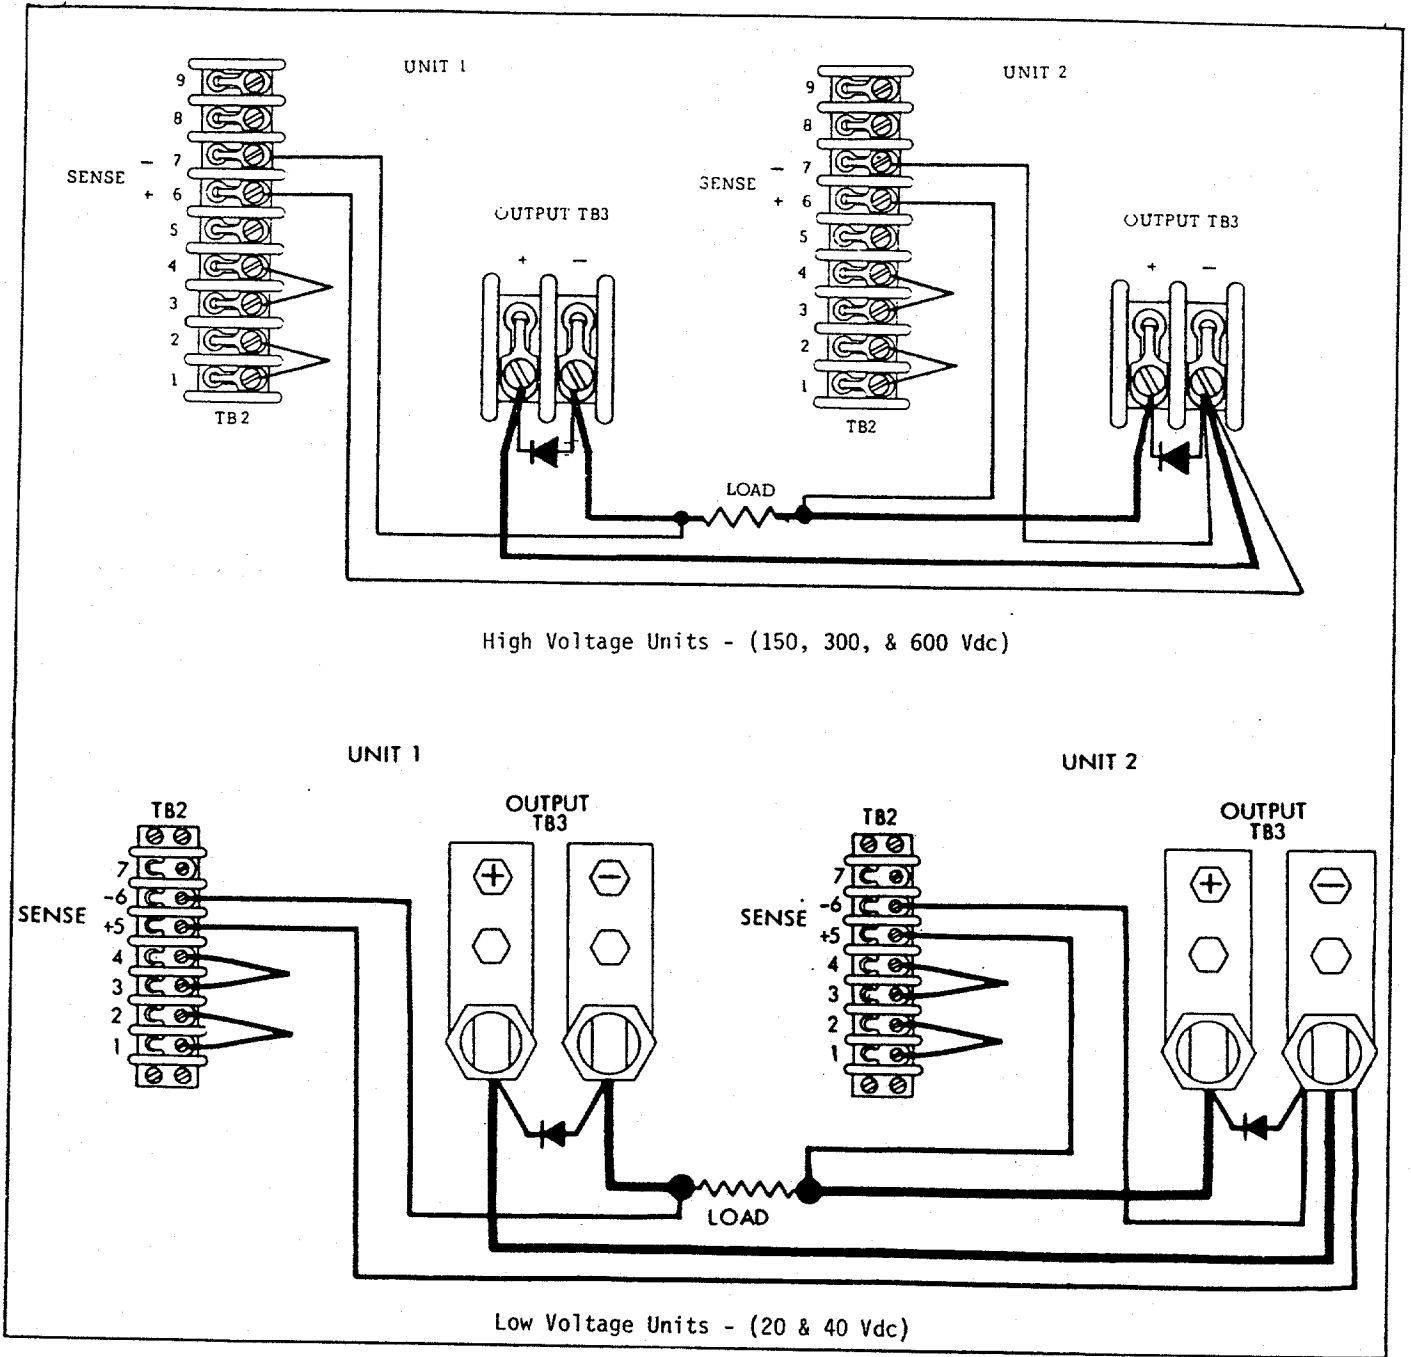

Figure 3-9 Series Operation (With Remote Sensing)
The following outlines procedures for connecting two units in series. The same procedure may be used for series connecting up to five units. (See Figure 3-9 for a schematic of connections.)
Series units may be connected for remote sensing as indicated in Figure 3-9 or, they may be adapted to resistance or signal programming. None of these, however, is required for series operation.
In series operation, rectifiers must be connected across each set of output terminals as shown in Figure 3-9. Failure to do so may result in damage to output capacitors. See para. 3-11 for information on rectifier selection.
- e. If remote sensing is desired, proceed as follows: See Figure 3-9.